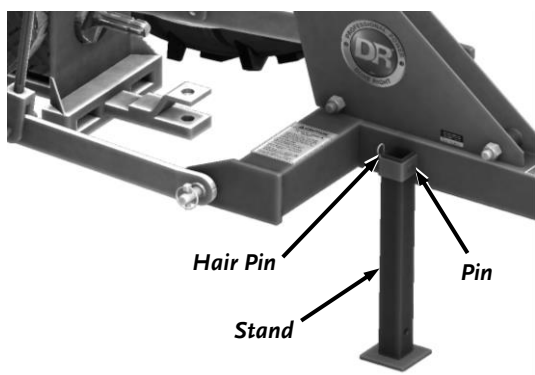

Figure 12
5. Raise the 72" 3PT LANDSCAPE RAKE slightly off the ground with the Tractor and hold the Stand as you remove the Pin and Hair Pin (**Figure 12**).